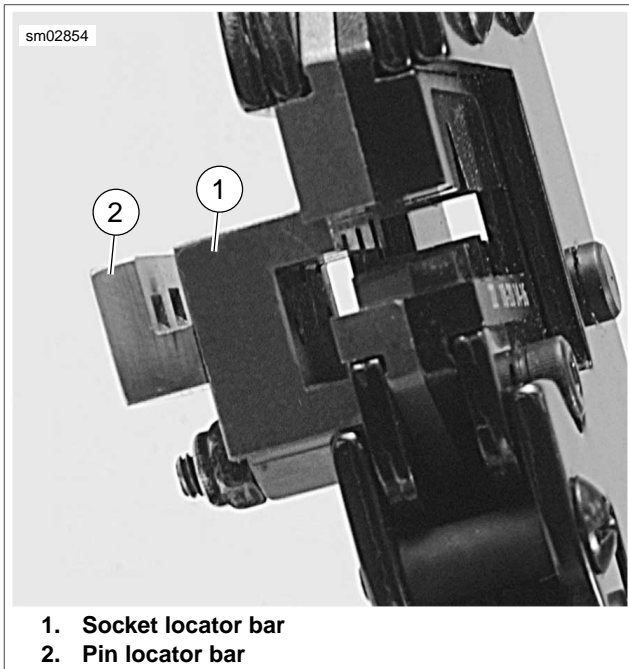

Figure A-33. Terminal Locator Bars
- a. **Socket Terminal:** See Figure A-33. A socket terminal stops against the back face of the socket locator bar (1).